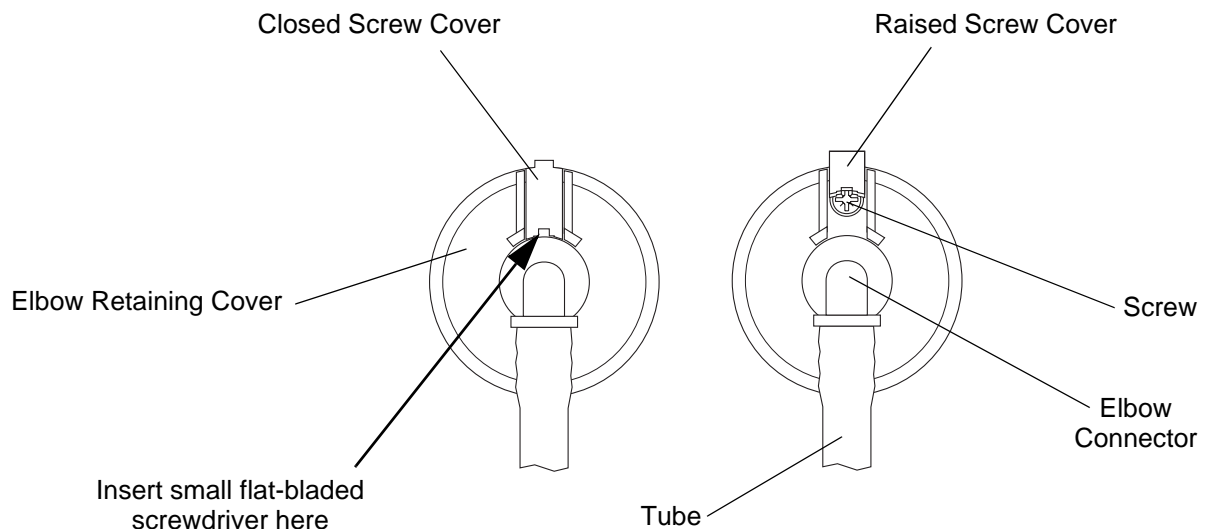

Figure 35 - Lifting the Hose Set Connector Flap
- 8.1 Using a small flat-bladed screwdriver, carefully lift the screw cover on the elbow retaining cover to reveal the screw underneath (Refer to Figure 35).
- 9.1 If you want to re-fit the same hose set assembly which was removed from the pump, then inspect the screw cover on the elbow retaining cover on the hose set assembly (Refer to Figure 35). If the screw cover or hinge is damaged or split, then replace the hose set assembly.
- 9.8 Carefully press down the screw cover until it clicks into position (Refer to Figure 35).